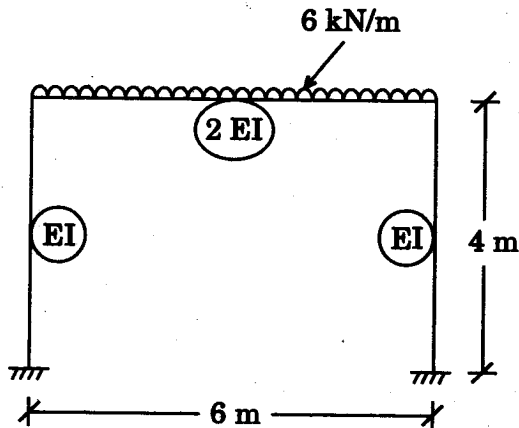

Figure 2
5. A portal frame is loaded as shown in Figure 2. Analyze the frame assuming the moment of inertia as shown in within circles. Draw B.M. and S.F. diagrams also.